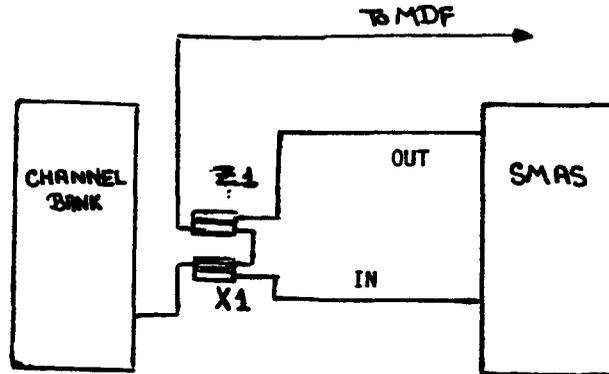

FIG. 49 INCOMING-OUTGOING SMAS
5.221 The SMAS cable receptacle to be connected to the lower half-tap receptacle is wired using the "X1" wiring identification plate. The SMAS cable receptacle to be connected to the upper half-tap receptacle is wired with the "Z1" wiring identification plate. See Fig. 49. The X1 and Z1 plates are yellow colored.